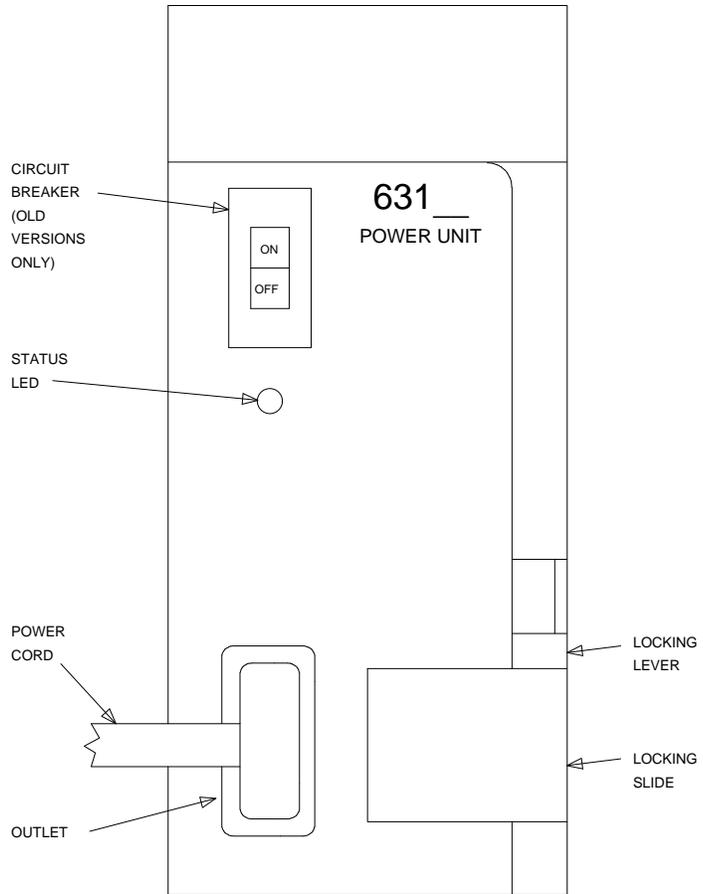

Figure 3-41. 631-Type Power Unit
17. Connect the power cords to the power units. The power cords are the white cables equipped with plugs that are run through the slots in the front of each carrier (see Figure 3-41).